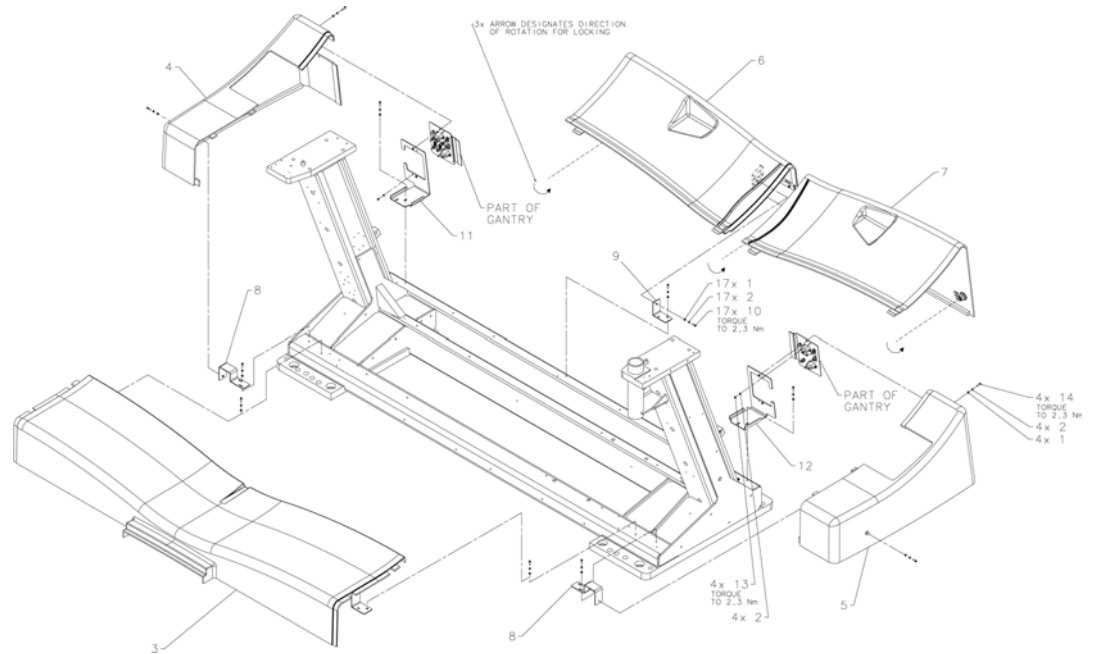

Figure 2-3 Gantry Base Covers, exploded view of an H2 base. Cover installation is same for gantry procedures.
- 3.) Remove both left and right Gantry side base covers (items 6 & 7, respectively, in Figure 2-3) and then both rear base covers (items 8 & 9, in Figure 2-3).